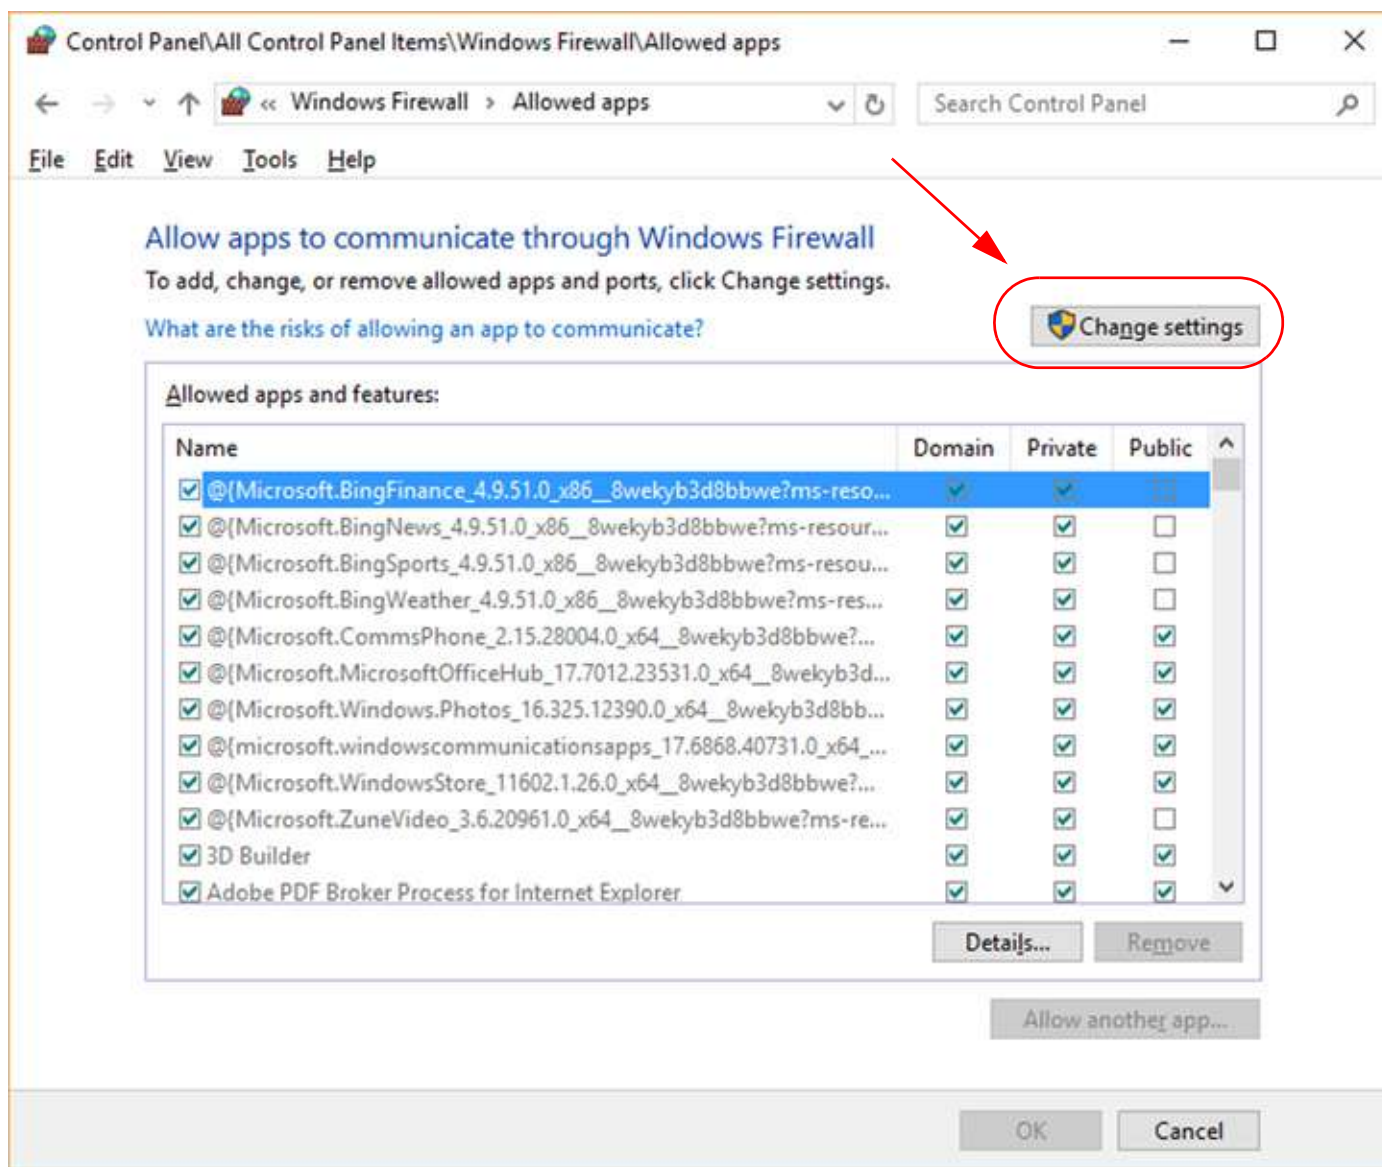
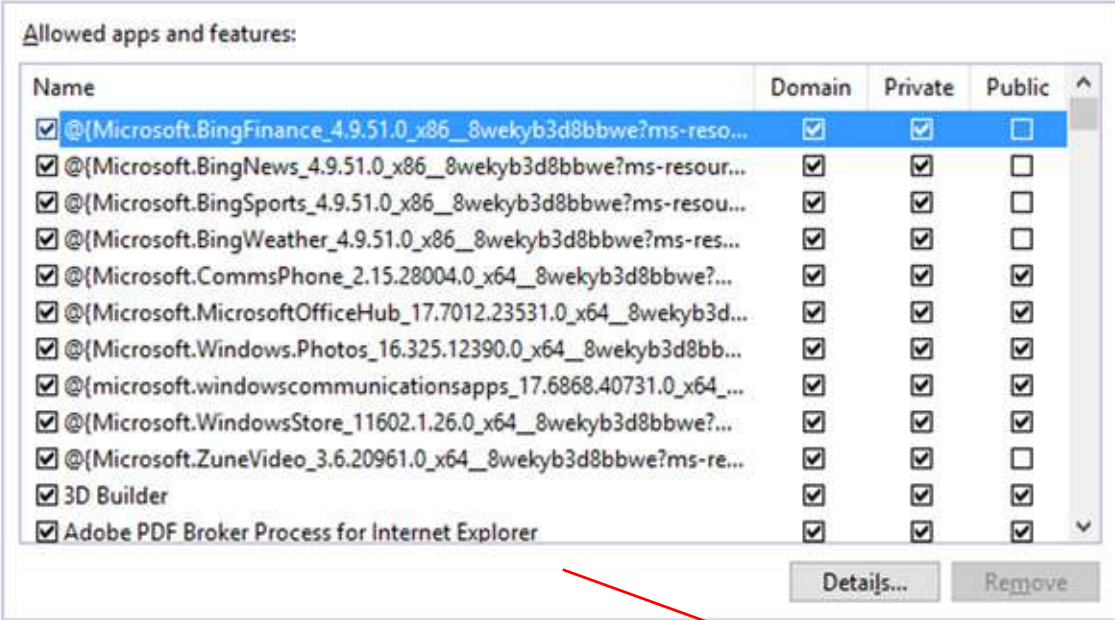

Figure 3.13: Windows 10: Change Settings -> Change settings
Figure 3.14: Windows 10: Change Settings -> Allowed Another app
4. From the Windows Firewall screen -> Allow apps to communicate through Windows Firewall, select “Change settings”, then select “Allow another program”. See Figure 3.13 and Figure 3.14 on page 117.